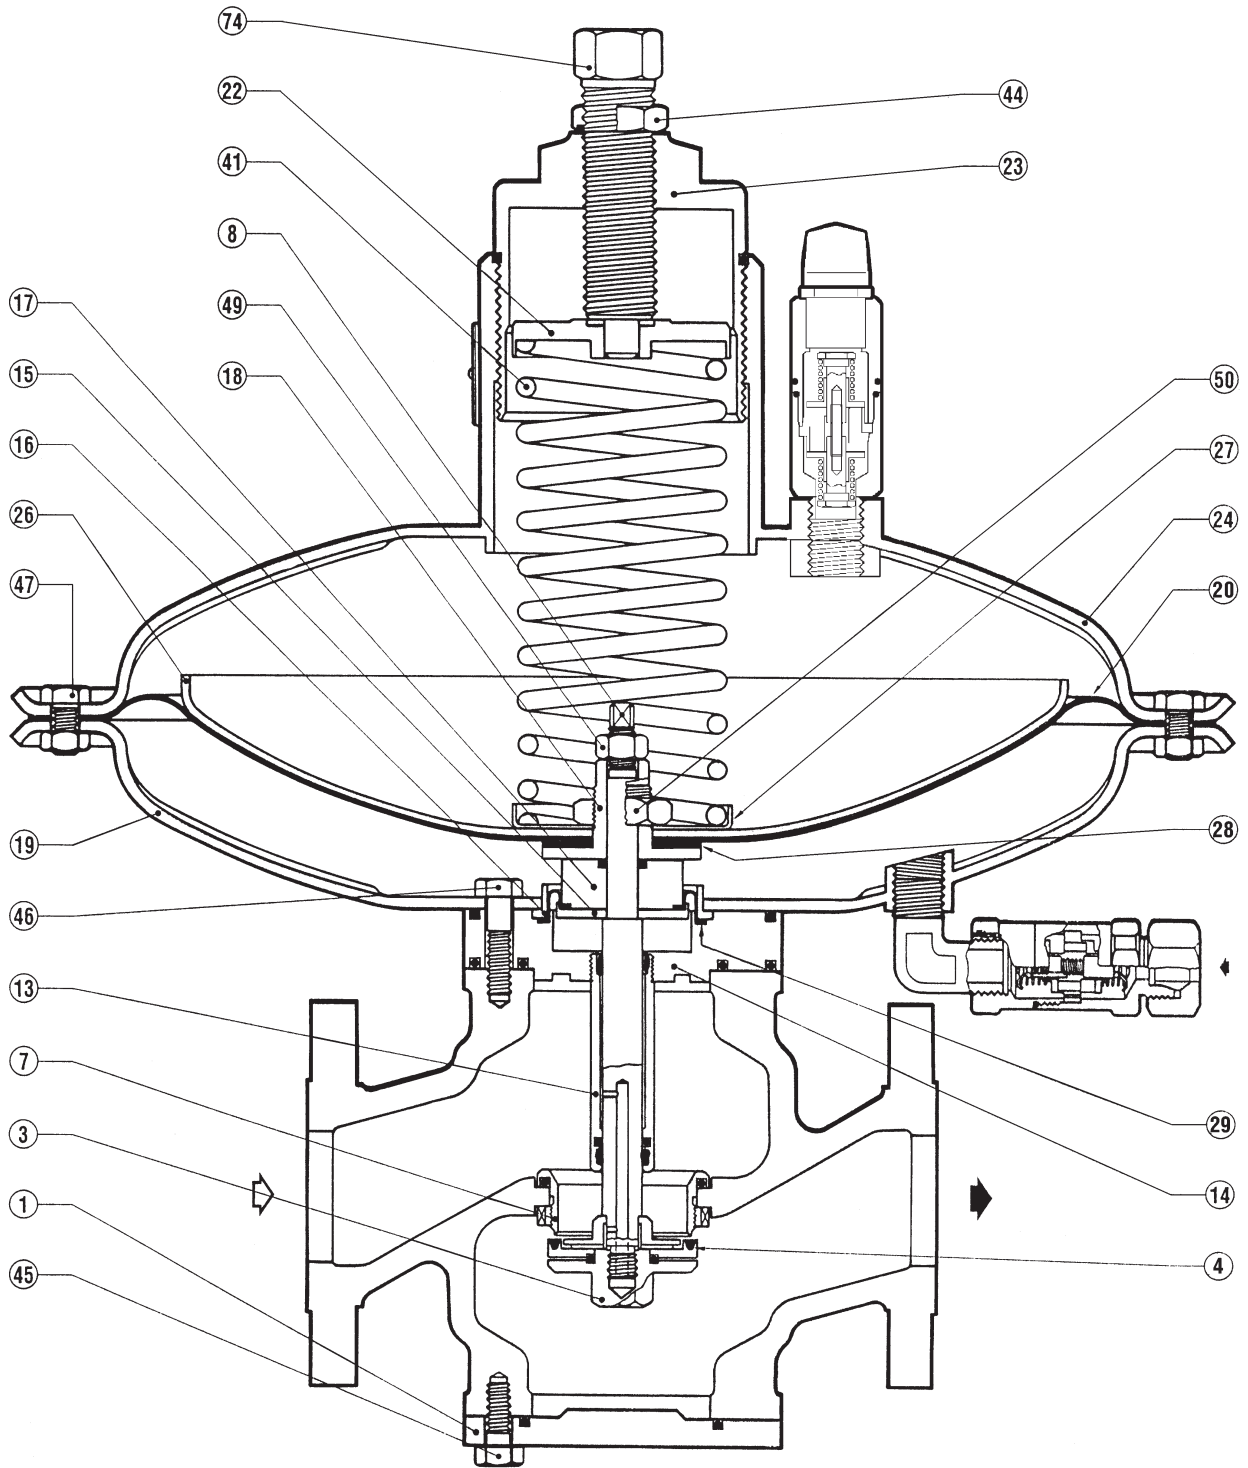

Fig. 17
6.1 TAB. 9 REGULATOR (FIG. 17)
(The positions refer to fig. 17)